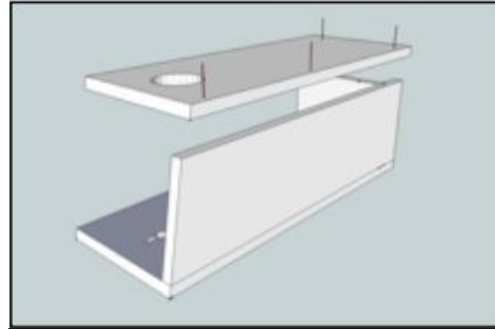

Figure 5: Fix the Front Panel to the Fixed and Base Side Panels.
- Place the “Front Panel” (FP) on the SP/BA aligning the top angled edge of the FP with the SP.
- Nail the FP to the SP using 3 nails along the length – top, middle and base (Fig. 5).
- Place the “Door” panel (DP) between the FP and RP to complete the box.
- Drive a nail through the FP and into the BA ~40mm in from the door edge to affix the FP to the BA (Fig 5).
- Align the Roof (RF) with the other top edges of the RP, SP & FP and push into place.